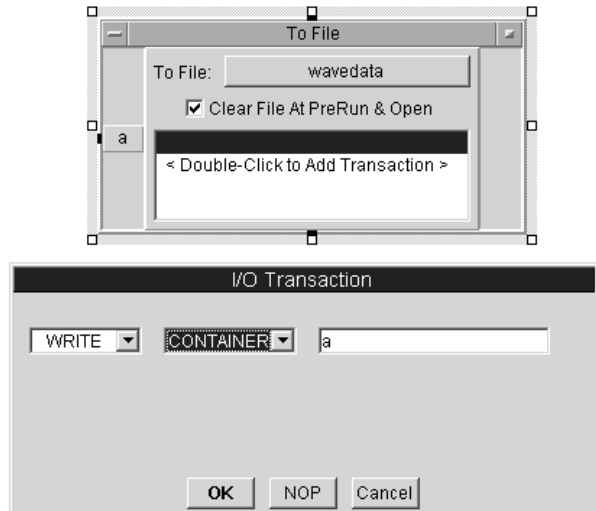

Figure 49 Choosing an I/O Transaction
- 3 Double-click on the area labeled **Double-Click to Add Transaction** to write the data. The dialog box in Figure 49 appears. Click the **TEXT** field (or its arrow) to show the drop-down list of data types and click **CONTAINER**. Click **OK**. Notice that when you click **OK** in the **I/O Transaction** dialog, an input pin **a** is automatically added to the To File object.